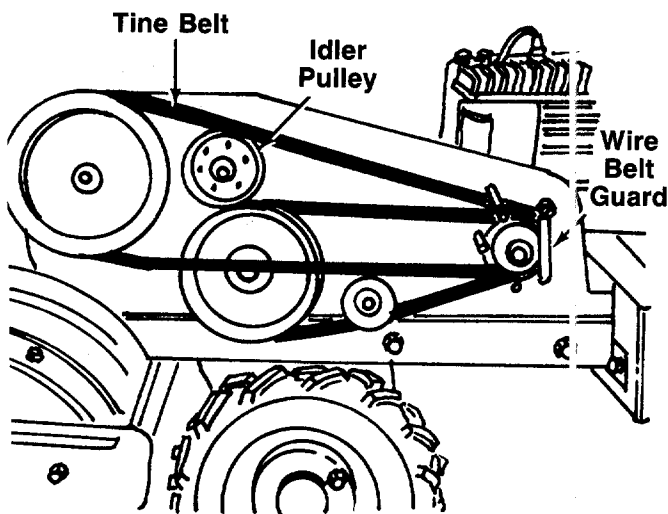

FIGURE 22.
2. Lift the belt from under the flat idler pulley. See figure 22.
3. Remove the wire belt guard. See figure 22.